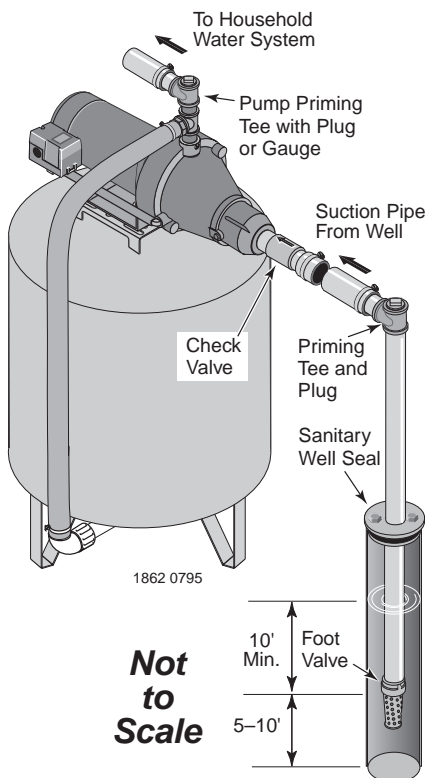

Figure 2: Cased Well Installation
CASED WELL INSTALLATION, 2" OR LARGER CASING (Figure 2)
Step 2. Assemble the foot valve, strainer, and well pipe (see Figure 2). Make sure that the foot valve works freely.
Step 4. Install a priming tee, priming plug, and suction pipe to the pump (see Figure 2). Connect the pipe from the well to the pump suction port, using the fewest possible fittings – especially elbows – as fittings increase friction in the pipe (however, include a foot valve – see Figure 2). The suction pipe should be at least as large as the suction port on the pump. Use teflon tape or a teflon-based pipe joint compound on threaded pipe joints. Support the pipe so that there are no dips or sags in the pipe, so it doesn't strain the pump body, and so that it slopes slightly upward from the well to the pump (high spots can cause air pockets which can air lock the pump). Seal the suction pipe joints with teflon tape or a teflon based pipe joint compound. Joints must be air- and water-tight. *If the suction pipe can suck air, the pump cannot pull water from the well.*